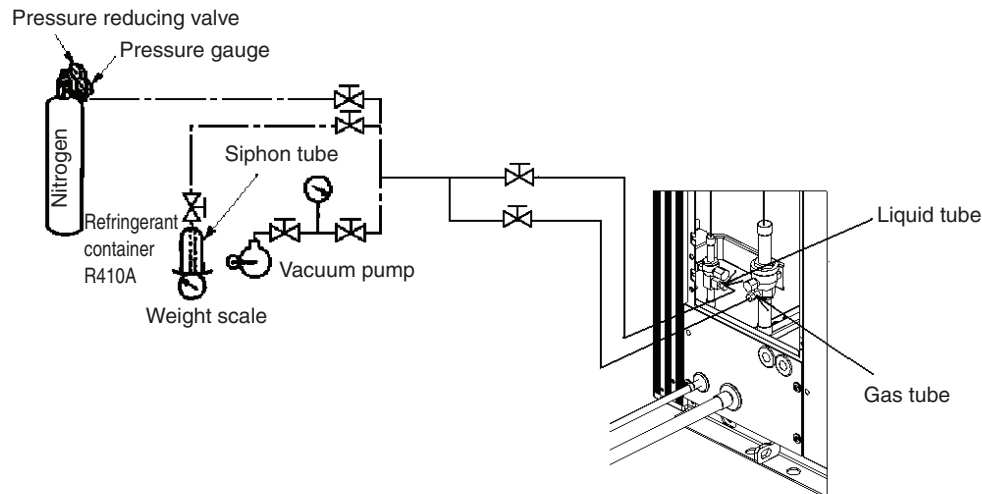

Fig. 18
- Connect the manifold gauge to both service ports - on the wide tube side and narrow tube size. Then connect the nitrogen tank, vacuum pump, and other items as shown in Fig. 18.